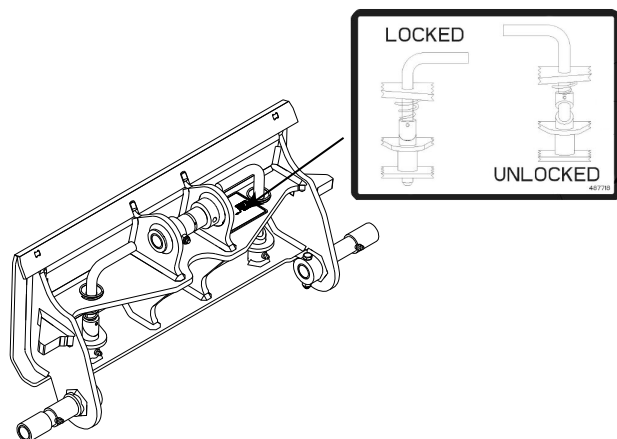

Figure 4-20. Attachment Latching Pins
7. Engage the attachment latches, ensuring that they are fully seated in the mounting plate. See Figure 4-20.